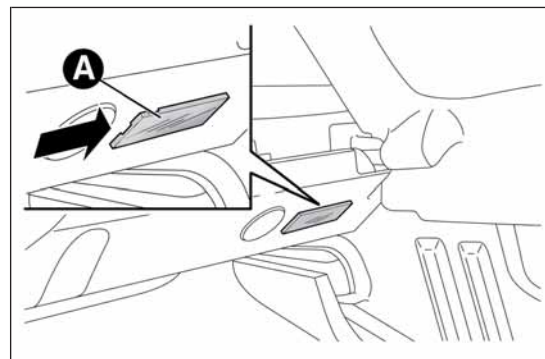

fig. 143
- ☐ open the luggage compartment and extract the roof light A fig. 143 working in the point shown by the arrow;
- ☐ refit the roof light A fig. 143 by inserting it in its correct position firstly on one side and then pressing on the other until it clicks into place.